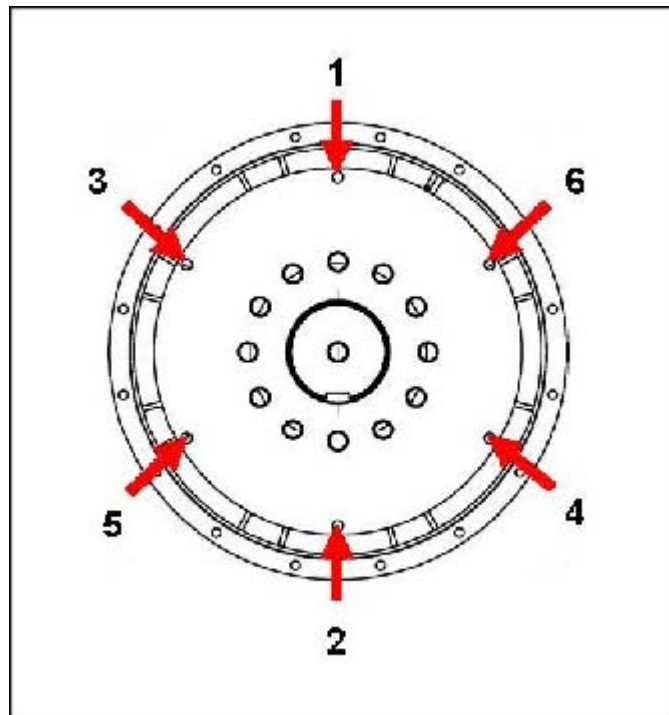

FIGURE 21. FIXING SEQUENCE TO FLYWHEEL
10. Tighten the bolts to fix the coupling disc to the flywheel, in the sequence shown in Figure 21 on page 38